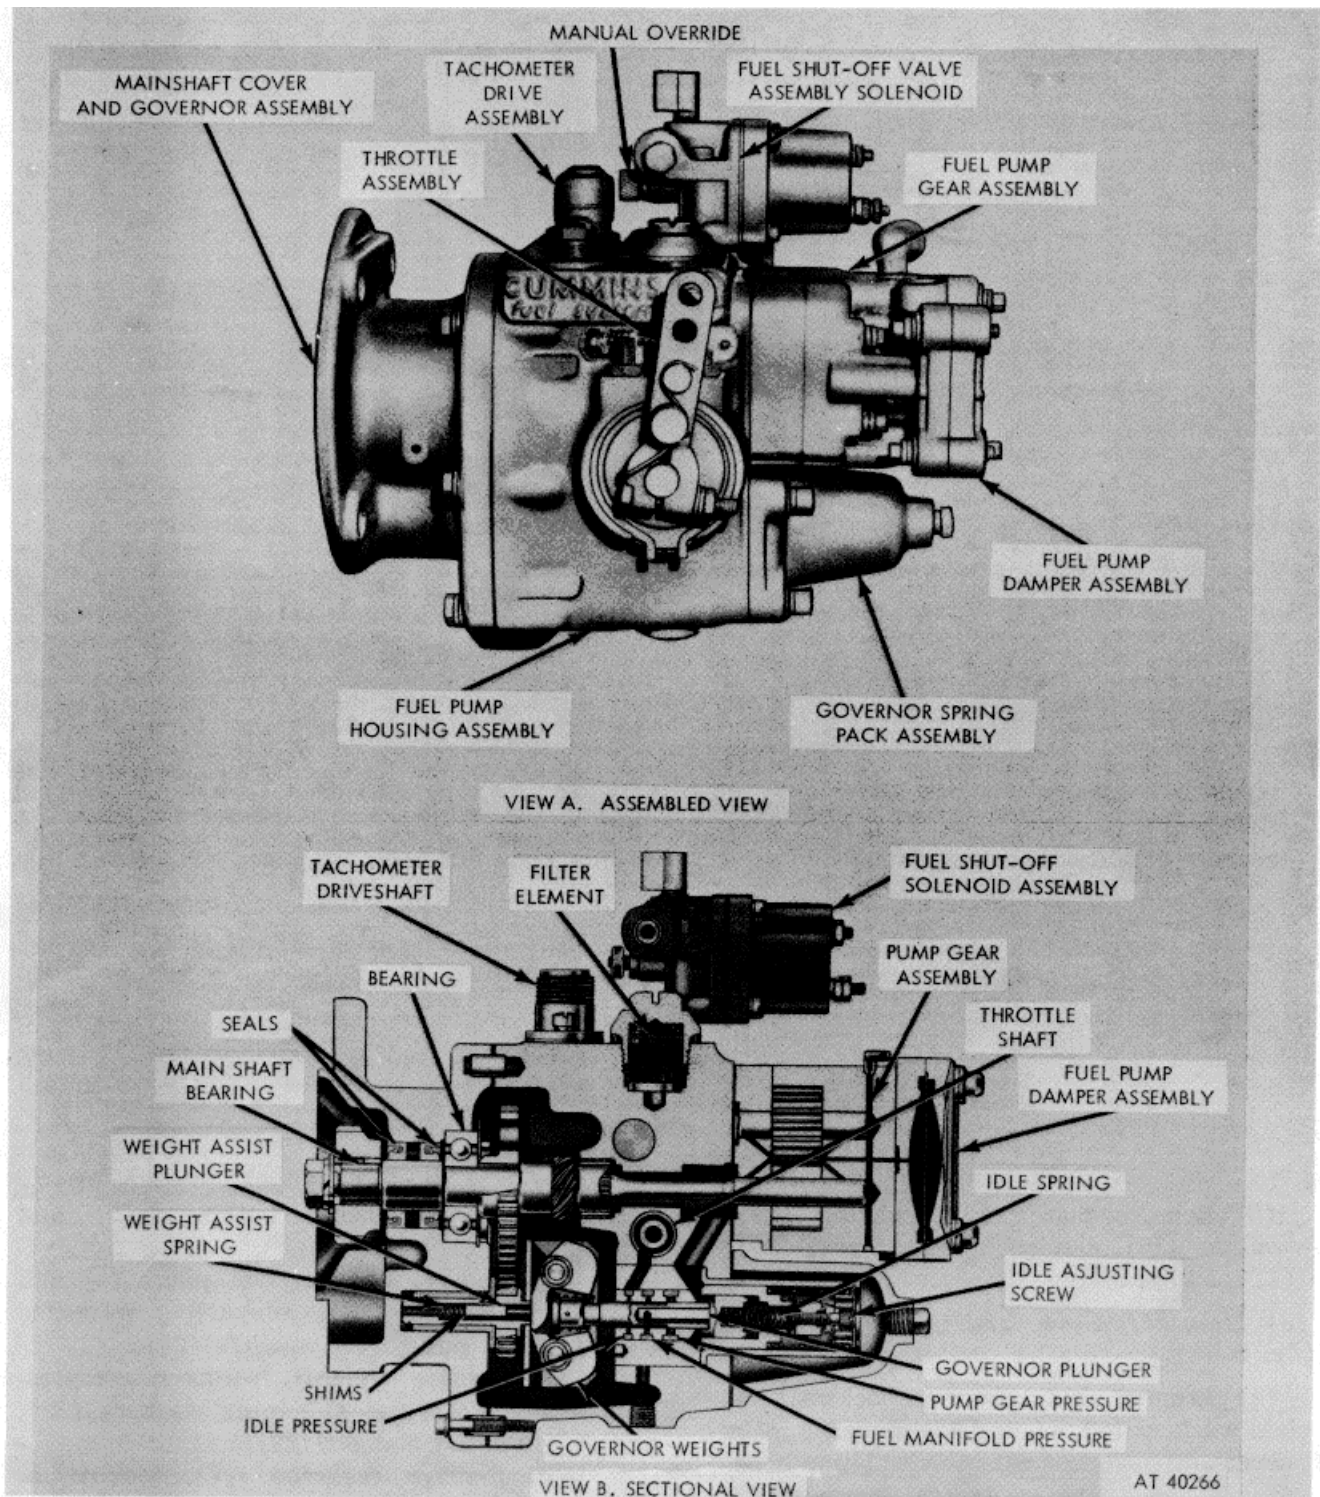
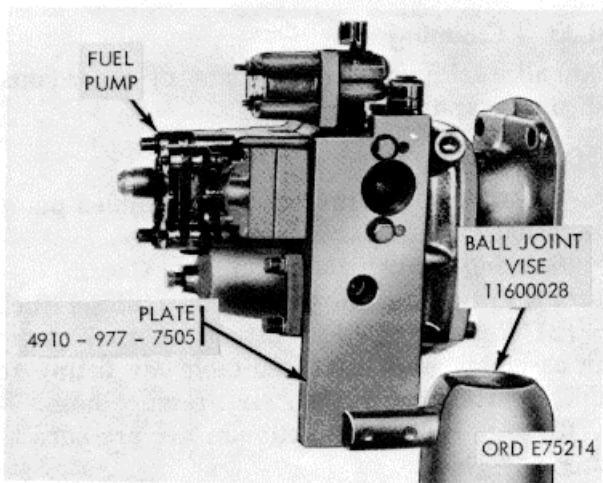

Figure 3-73. Fuel Pump PT (type G).
Figure 3-74. Mounting plate and ball joint vise installation.
- a. *Disassembly Into Sub-assemblies.* Mount fuel pump (fig. 3-73) to fuel pump mounting plate and ball joint vise (1 and 2, fig. 28) as shown in figure 3-74.
- (1) *Fuel shut-off solenoid valve assembly* B-17).
- (b) Remove valve (1). Discard O-Ring (17).
- (c) Remove four screws and lockwashers (14 and 15) securing coil assembly (13) to pump housing (6).
- (d) Remove shield (12), O-Rings (8 and 11), spring (10), and valve (9).
- (e) Remove knob (18) on manual override shaft (7) and remove shaft.
- (f) Remove outlet connection (2) and pipe plug (16).
(3) Open pump solenoid manual override knob (fig. 3-73) by turning fully clockwise.